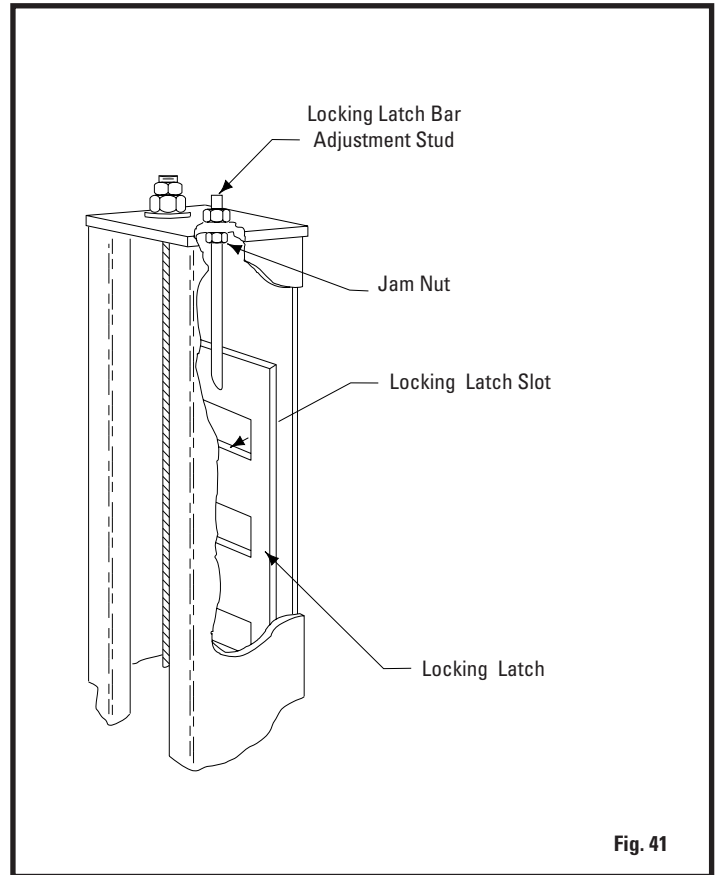

Fig. 41
- J. To complete the leveling procedures, lock each locking latch plate jam nut tightly against bottom of column top plate, Fig. 41. Also tighten down 1/4" bolt on front latch bar bases.